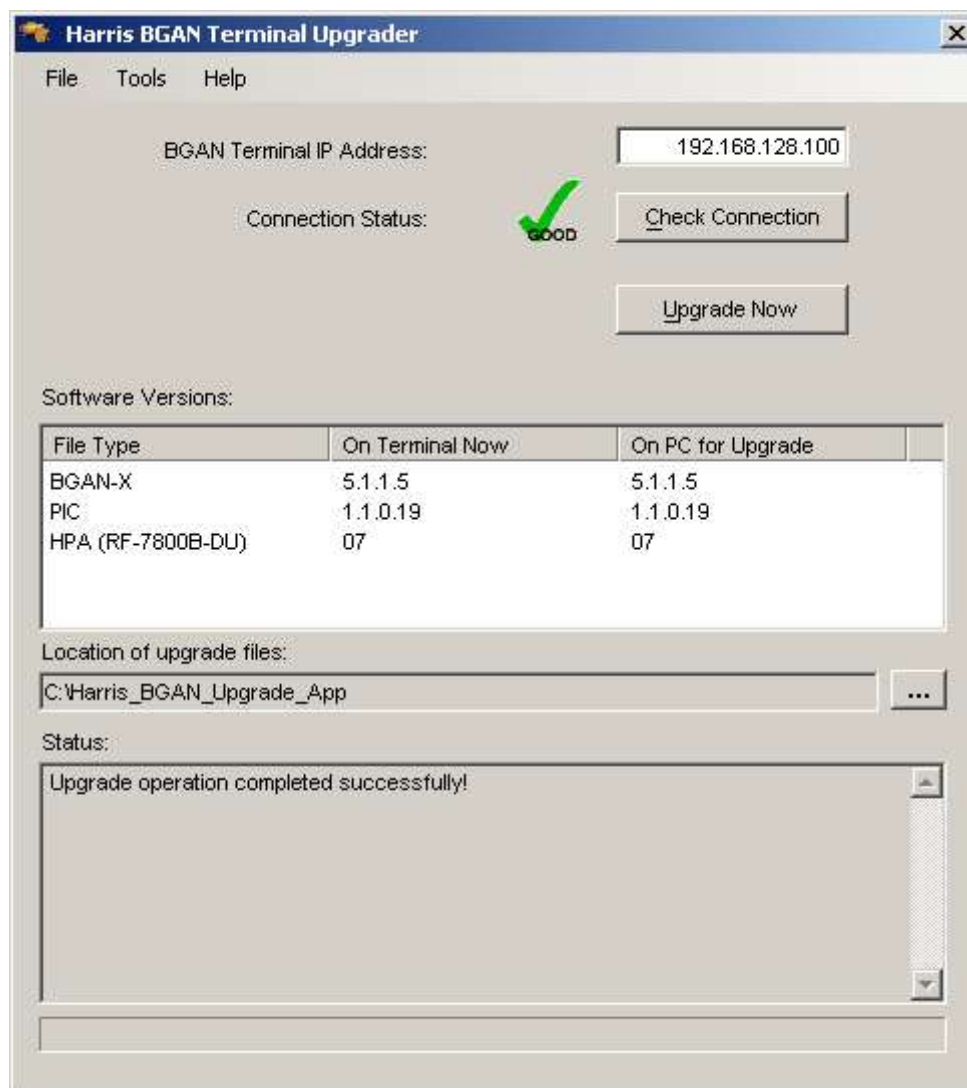

Figure 4-16. BGAN Terminal Upgrade Complete
- f. After the Upgrade Application displays the message “Upgrade operation completed successfully!”, select the **Check Connection** button to query the installed version from the BGAN Terminal. See Figure 4-16.